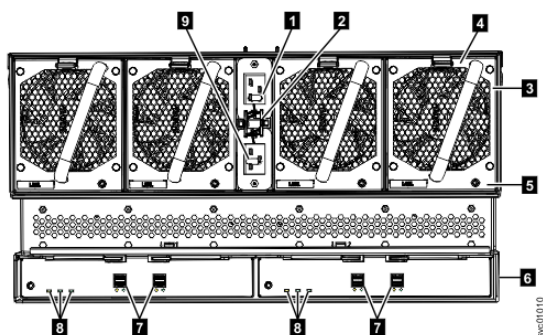
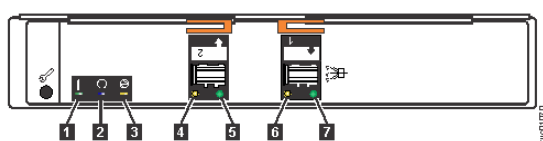

Figure 168. LEDs on the back of the expansion enclosure
Figure 169. LEDs on the back of the expansion canister
Table 65 on page 195 explains the function and status that is indicated by each of the LEDs. The power cords for each PSU are accessible from the rear of the expansion enclosure (1), as shown in Figure 168 on page 197.
Figure 168 on page 197 shows the rear view of a expansion enclosure. LEDs on the rear of the enclosure provide information about each fan module, each expansion canister, and SAS links.
The expansion enclosure has four fans. Each fan has one LED; for example, Figure 168 on page 197 shows the location of the LED (5) for fan number four. When a fan is operating normally, the LED is not lit. If a fault is detected, the amber LED is lit.
As Figure 168 on page 197 also shows, the expansion enclosure contains two expansion canisters. Each expansion canister contains its own set of LEDs, as shown in Figure 169 on page 197. The LEDs provide status information about the expansion canister itself and the SAS connections.